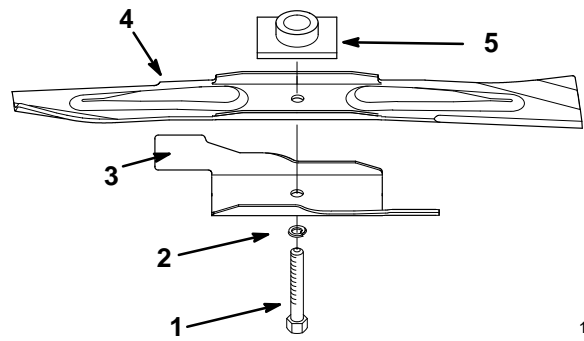

Figure 22
2. Remove the blade bolt, lockwasher, blade accelerator and blade (Fig. 22).
1. Position the blade onto the spindle and blade driver, with the curved blade tips pointing toward the mower and the blade driver nesting in the recess of the blade (Fig. 22).
2. Install the accelerator, lock washer, and blade bolt (Fig. 22).